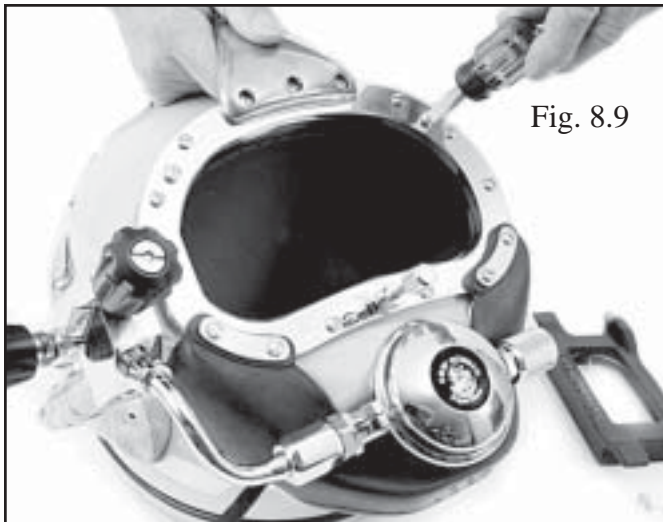

Fig. 8.9
2) Insert the screws through the spacer washers and then through the mount ears (Fig 8.9 Weld Lens Assembly, Fig 8.10 Weld shield assembly).